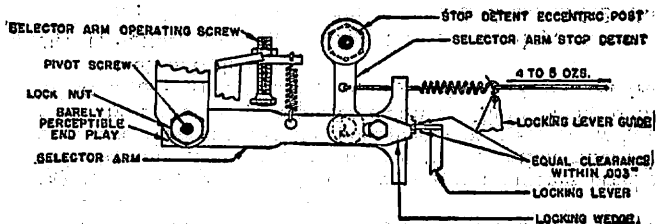

Fig. 7
4.16 **Selector arm stop detent:** Locking lever shall clear sides of locking wedge by equal amounts within .003" as gauged by eye when armature lever is in its operated and unoperated positions. See Fig. 7.
4.17 **Selector arm stop detent spring** shall have a tension of min. 4 ozs., max. 5 ozs. measured as in Fig. 7 when stretched to position length.